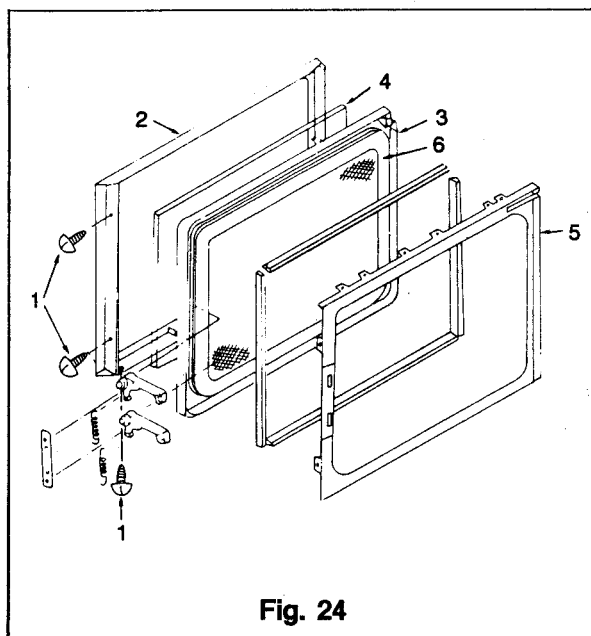

Fig. 24
9. Door Cover and outer Barrier Removal (Refer to Fig. 24, 25, 26)